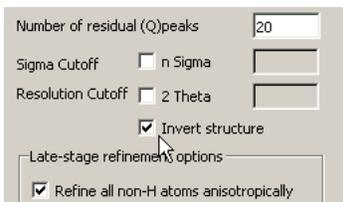

Figure 9.24 – Inverting and choosing anisotropic refinement
4. In the refinement box, click **Invert Structure** and **Refine All Non-H Atoms Anisotropically** as in Figure 9.24.